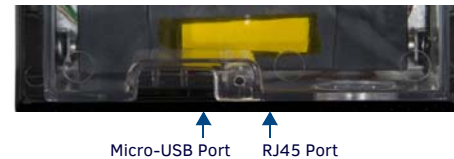

FIG. 4 REAR OF THE MSD-431-L
1. Before installing the touch panel into the Backbox, connect the Ethernet and USB cables to the rear of the panel (FIG. 4): .